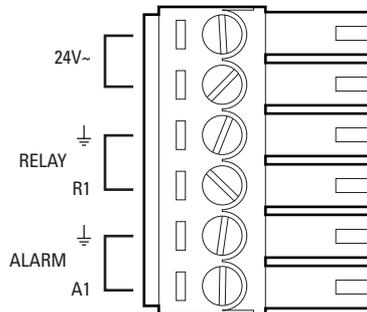

Figure 4. Alarm and Relay Wiring
- c. Connect the auto iris lens to the 4-pin connector located on the side of the camera. Refer to Figure 4 for the pin connections for the auto iris lens connector.
NOTE: If the network has no Power over Ethernet (PoE), connect a 24 VAC Class 2 power supply to the 24 VAC power connector (refer to Figure 4).
- Connect the necessary wiring for alarms and relays (refer to Figure 4). Only use the 24 VAC wires if PoE is not available.